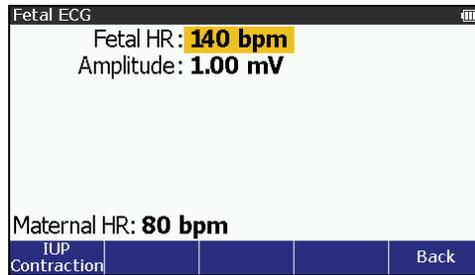

Figure 14. Fetal ECG Screen
2. Push \uparrow , \downarrow , \leftarrow , or \rightarrow to highlight **Fetal Simulation** and then push **ENTER** to show the **Fetal ECG** screen in the display. See Figure 14.